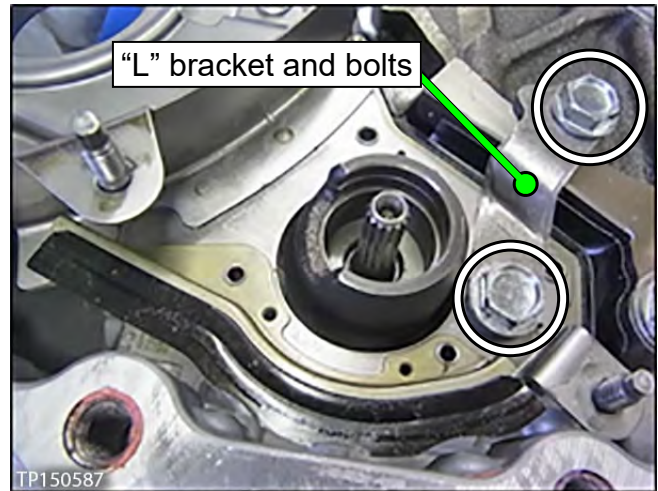

Figure 42
4. Remove the two (2) bolts, and then remove the “L” bracket (see Figure 42).